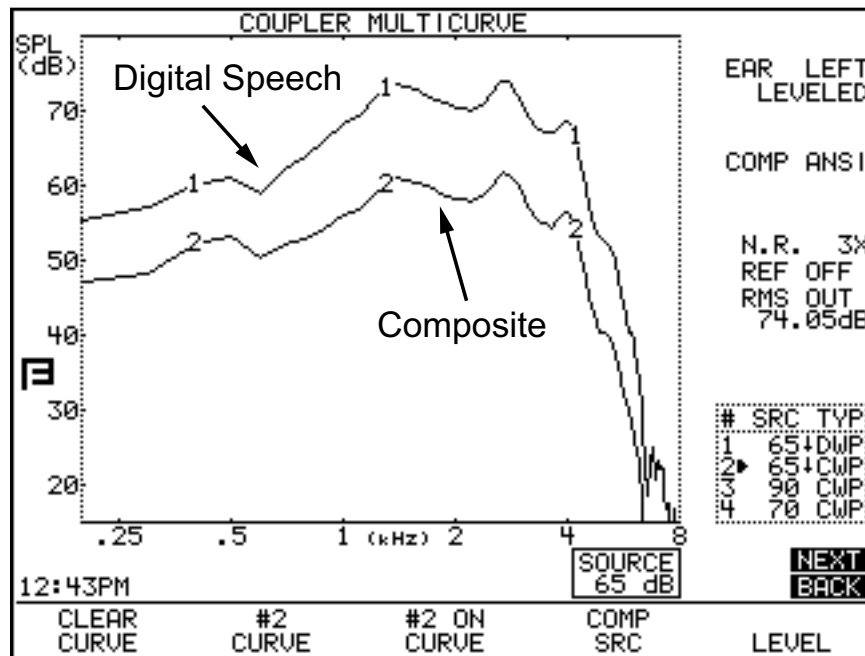

Figure 2.2.3—Digital speech curve comparison
6. Compare CURVE 1, made with Digital Speech, to CURVE 2, made with the Composite signal. If the aid has noise suppression, CURVE 2 should show less amplification than CURVE 1. See Figure 2.2.3